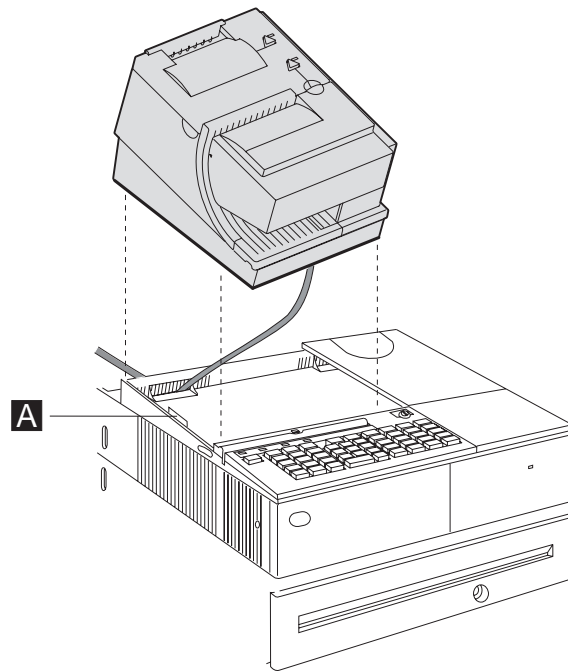

Figure 52. Install the printer
4. If your model has a slanted I/O tray, be sure the side of the printer overlaps the tab ( **A** in Figure 52) on the side of the slanted I/O tray.